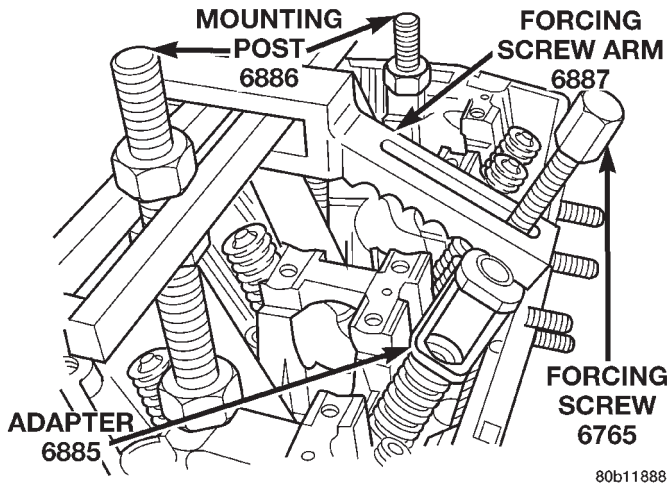
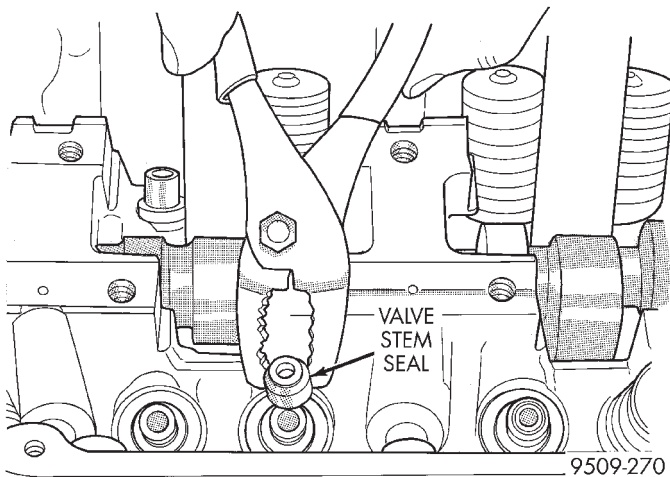

Fig. 53 Valve Springs—Removing and Installing
Fig. 54 Valve Stem Seal—Removal
- (3) Rotate crankshaft until piston is at TDC on compression stroke.
- (4) Remove spark plug from applicable cylinder.
- (5) Using a air hose attached to an adapter tool, install it into the spark plug hole. Apply 90-120 psi air pressure.
- (6) Use Special Tool MD-998772A with Mounting Post 6886, Forcing Screw Arm 6887, Forcing Screw 6765 and Adapter 6885 (Fig. 53) to compress valve springs and remove valve locks.
- (7) Remove valve spring.
- (8) Remove valve stem seals with suitable tool (Fig. 54).
- (3) Use Special Tool MD-998772A with Mounting Post 6886, Forcing Screw Arm 6887, Forcing Screw 6765 and Adapter 6885 (Fig. 53) to compress valve springs and remove valve locks.
- (4) Repeat Removal Steps 3 through 7 and Installation Steps 1 through 3 until all necessary valve springs/seals are replaced.